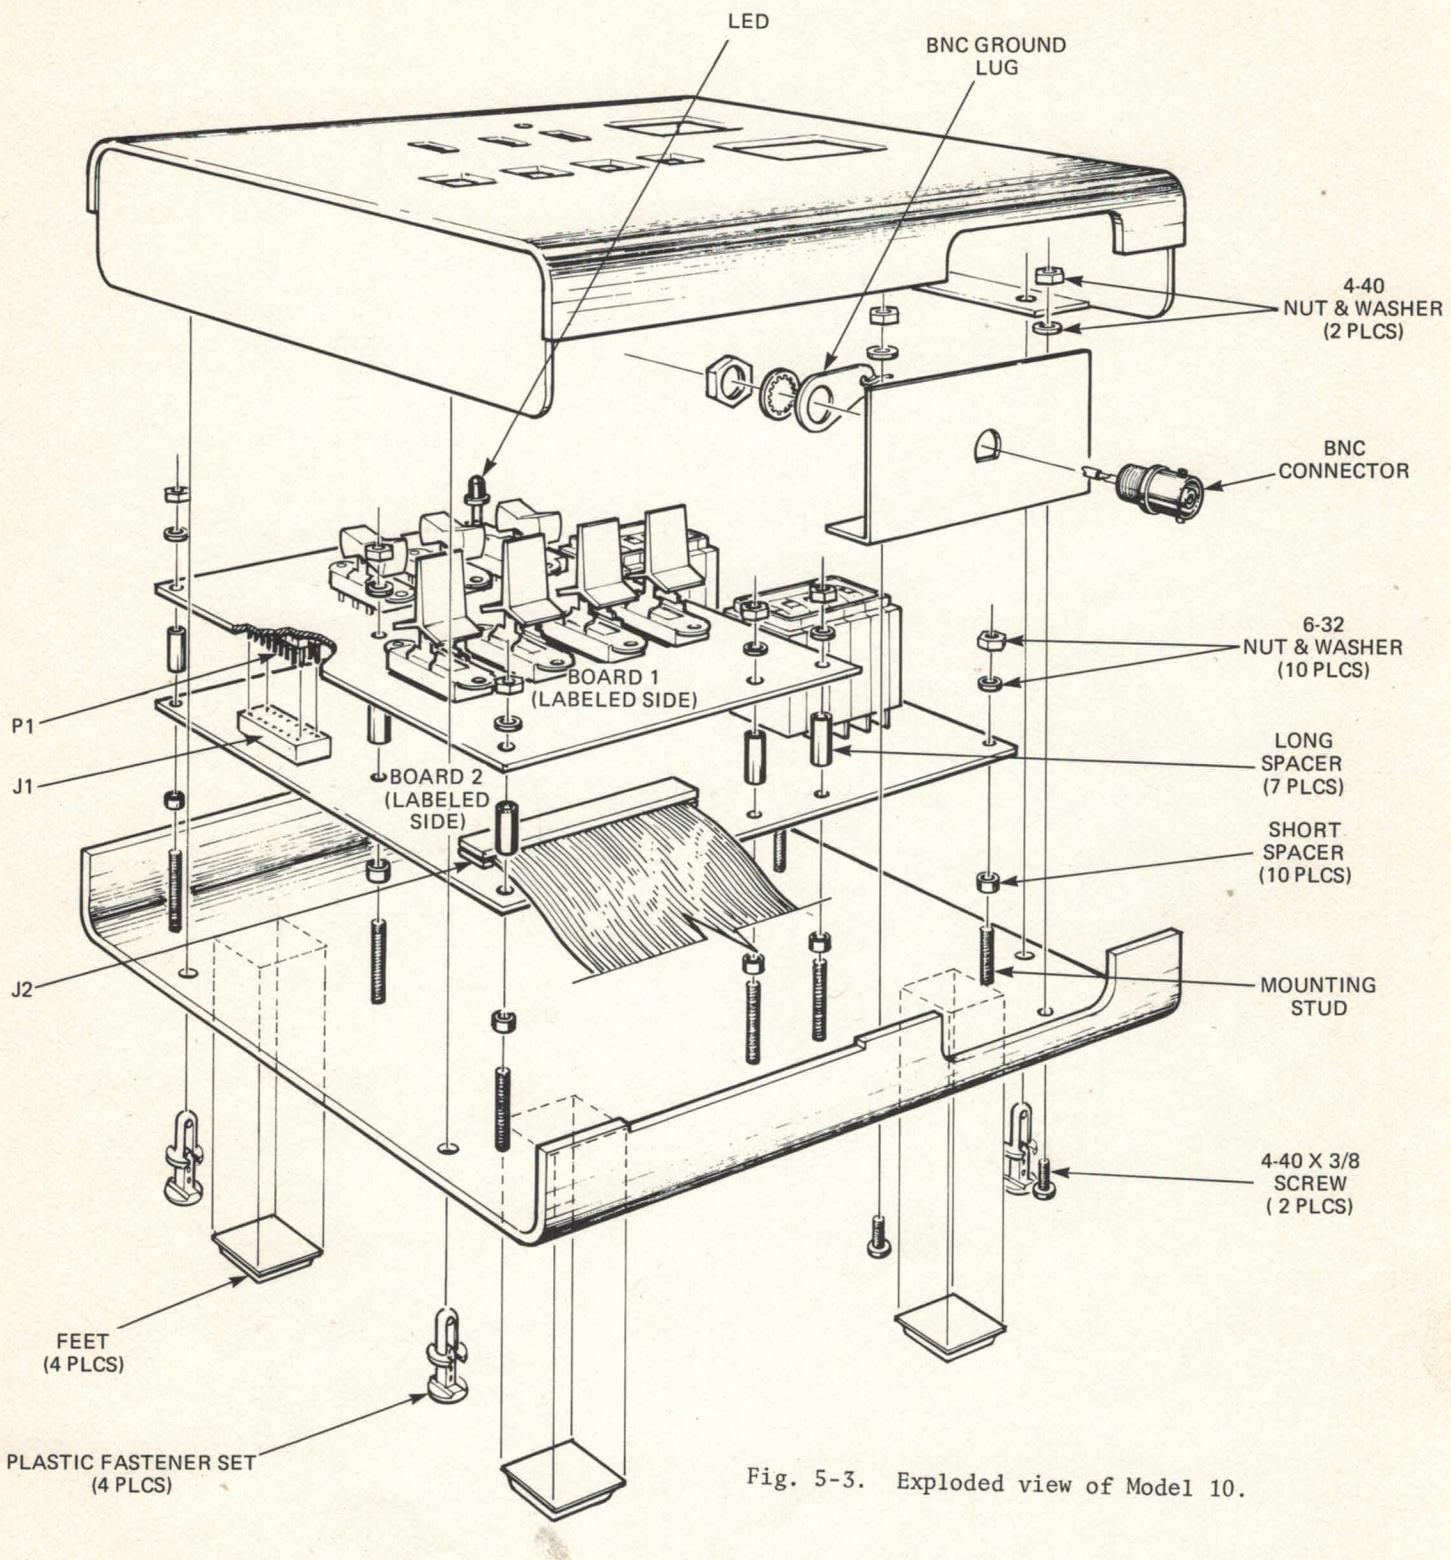

Fig. 5-3. Exploded view of Model 10.
Although the Model 10 has two PC boards as compared to the single board in the Model 100A, it is actually easier to assemble. The reason is that there is no power supply to wire up, fewer switches to align, and only one BNC connector instead of four. The exploded view in Figure 5-3 illustrates these points.
7. Note also that the interconnecting plug (P1) for J1 has two different pin diameters: the pins coming out of one side are smaller in thickness than the pins on the opposite side. MAKE CERTAIN THAT THE LARGER DIAMETER PINS ARE INSERTED INTO THE UNDER SIDE OF BOARD 1 AS SHOWN IN FIGURE 5-3; OTHERWISE P1 WILL NOT MATE WITH J1.